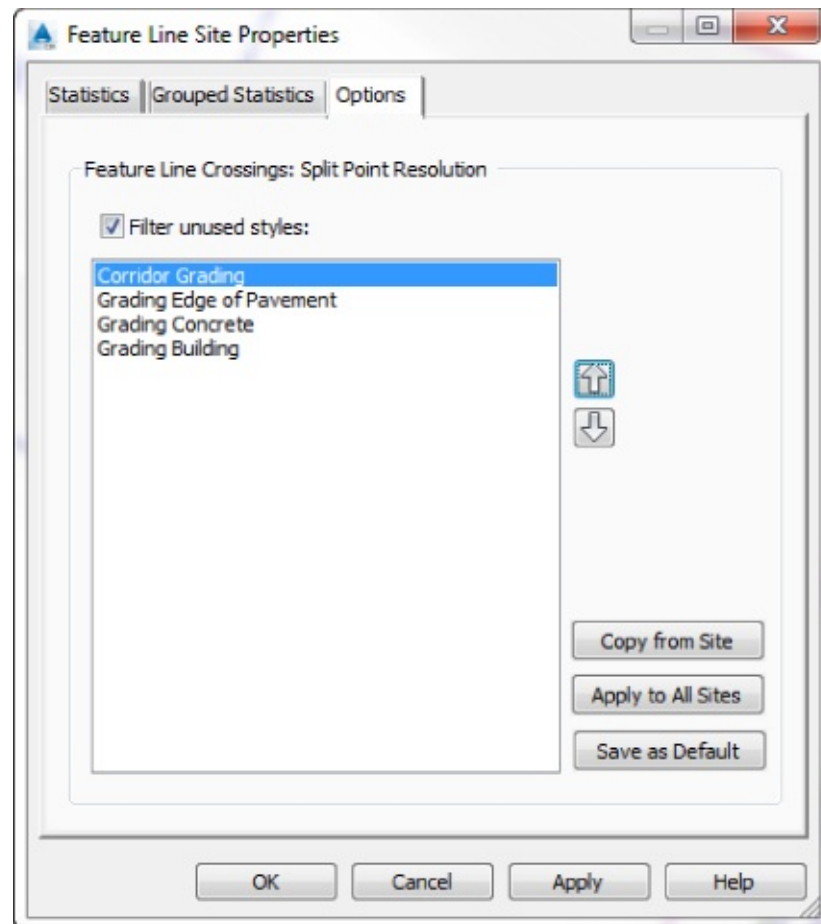

Figure 14.22 Assigning priority in the Feature Line Site Properties dialog
-  Click the up arrow button a number of times to move the Corridor Grading feature line style to the top of the list, as shown in Figure 14.22.